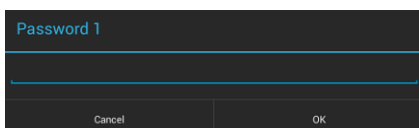

FIG. 29 Password 1 window
1. In the *G5 Settings* page, under **PASSWORD PROTECTION**, press **Password 1** to open the *Password 1* window to enter a new alphanumeric password via the on-screen keyboard (FIG. 29):